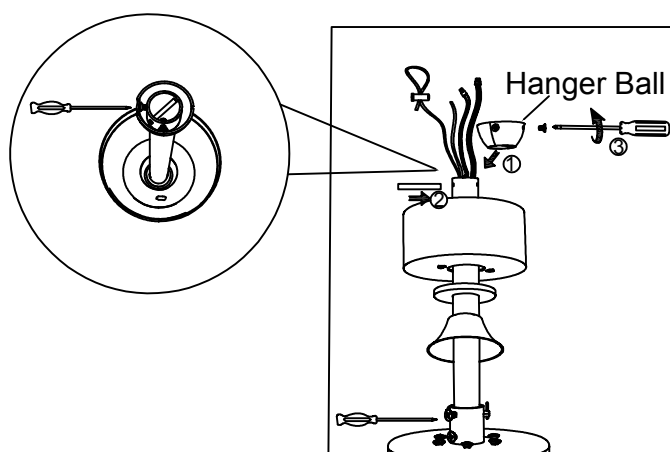

Figure 1.4
- Reattach the hanging ball to the lower rod with wires running through the hanging ball. Position the pin through the two holes of the lower rod and align the hanging ball so that the pin is caught in the groove at the top of the hanging ball. Pull the hanging ball tightly onto the pin. Securely tighten the setting screws inside the suspension ball. A loose setting screw may cause the fan to wobble. (Figure 1.4)